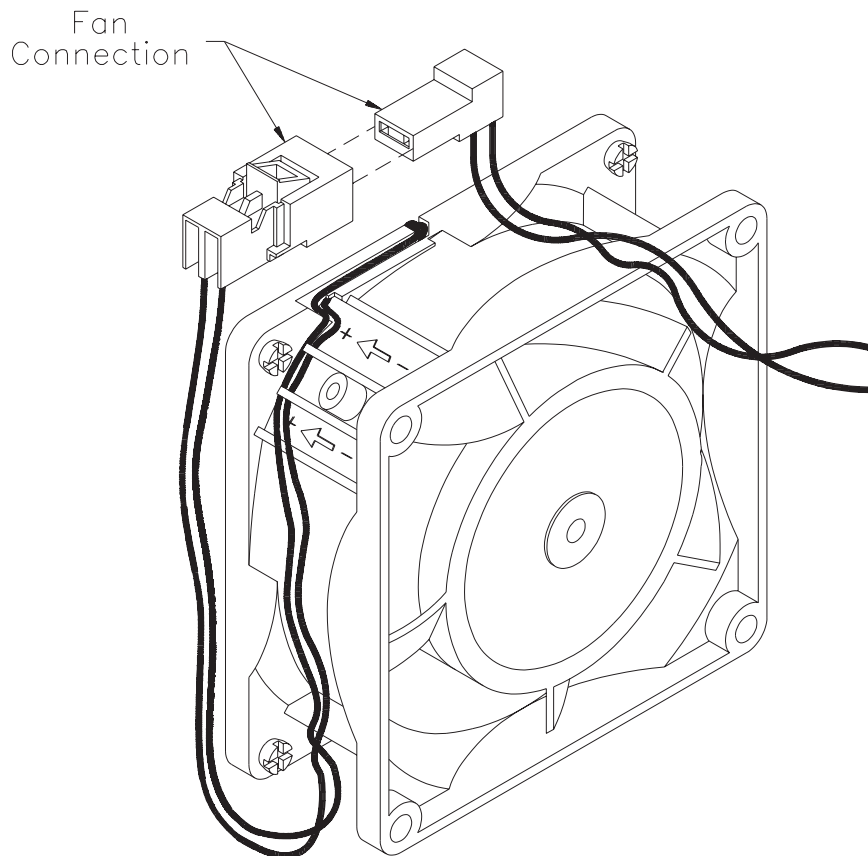

Figure 16-2 Fan connector location
5. Detach the fan cable from the connection *between* the fan and the power supply, as shown in Figure 16-2. Do not disconnect the cable from the power supply.
1. Connect the fan cable to the connection between the fan and the power supply, as shown in Figure 16-2.
2. Insert the fan into the chassis, so that the air-flow arrows point to the outside, back of the CHS. The air-flow arrows are located on the side of the fan, as shown in Figure 16-2.